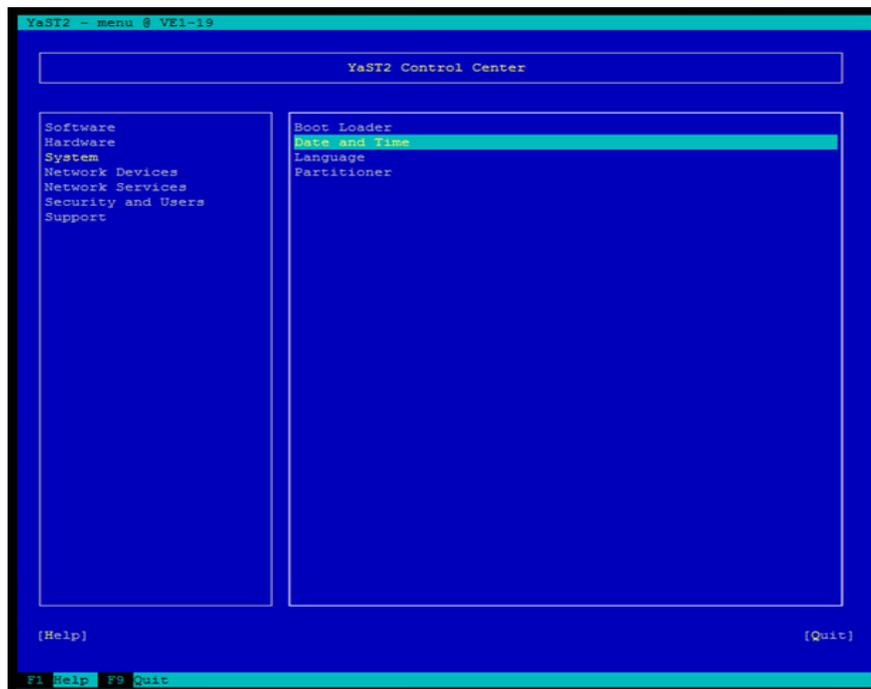

Figure 156 Setting date and time
7. If you need to set the date and time, then select **System** on the left-side pane, tab to the right-side pane, select **Date and Time** as shown in Figure 156 on page 126, and then press **Enter**. The Clock and Time Zone screen appears.